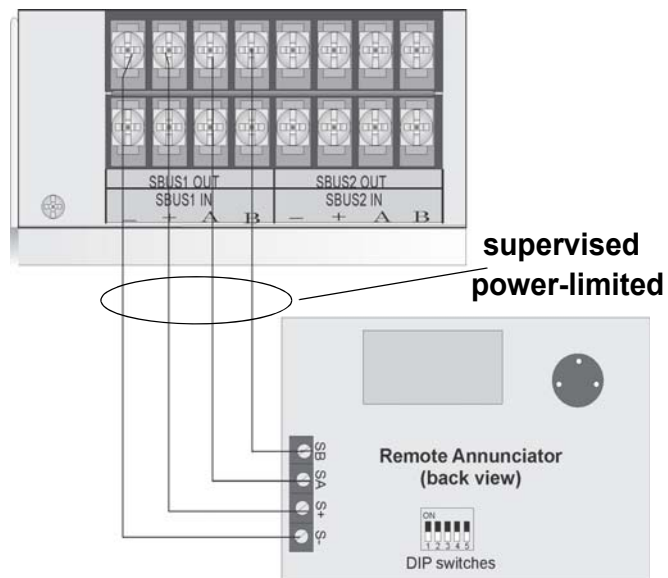

Figure 5 SBUS Connection
3. Connect the FIK-RA1000R to the panel. (See Figure 5).
Wire the FIK-RA1000R to the FACP as Shown in Figure 5.